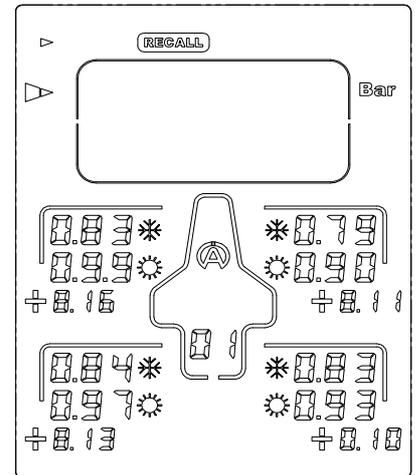

Figure 8
- 3) Press the button  or  : the Tyrecontrol displays the pressures of first « Set » recorded + the gaps (Figure 8).